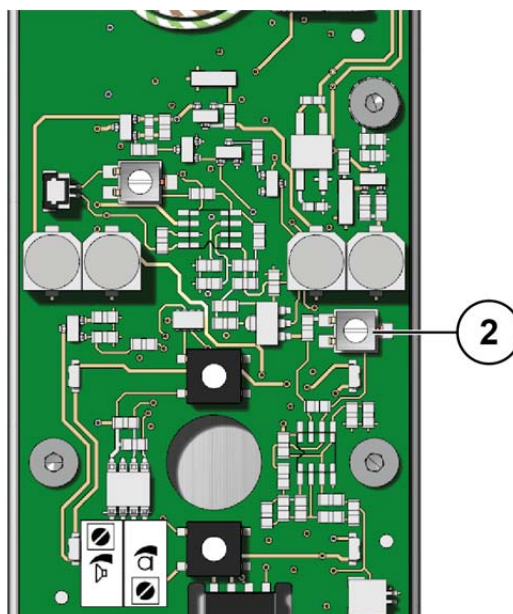

Fig. 12: Adjust the microphone volume
- ▶ Turn the control **(2)** right to increase the volume at the indoor station (Fig. 12).